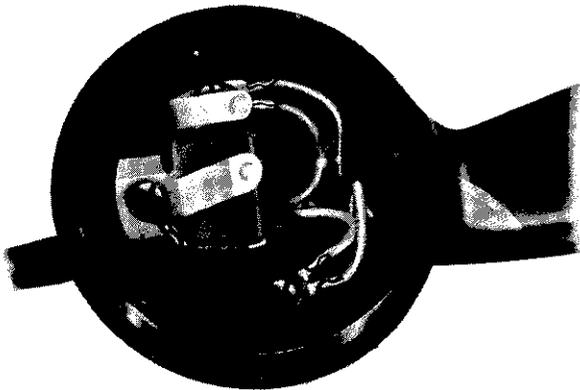

Fig. 6 - F-Type Hand Set with 129-Type Capacitor
4.03 The 129F capacitor is connected across the transmitter in an F-type hand set as shown in Fig. 6. The outer terminal of the capacitor (with eyelet) is placed under the mounting screw of the center contact spring. The inner terminal of the capacitor is placed under the mounting screw of the outer contact spring.